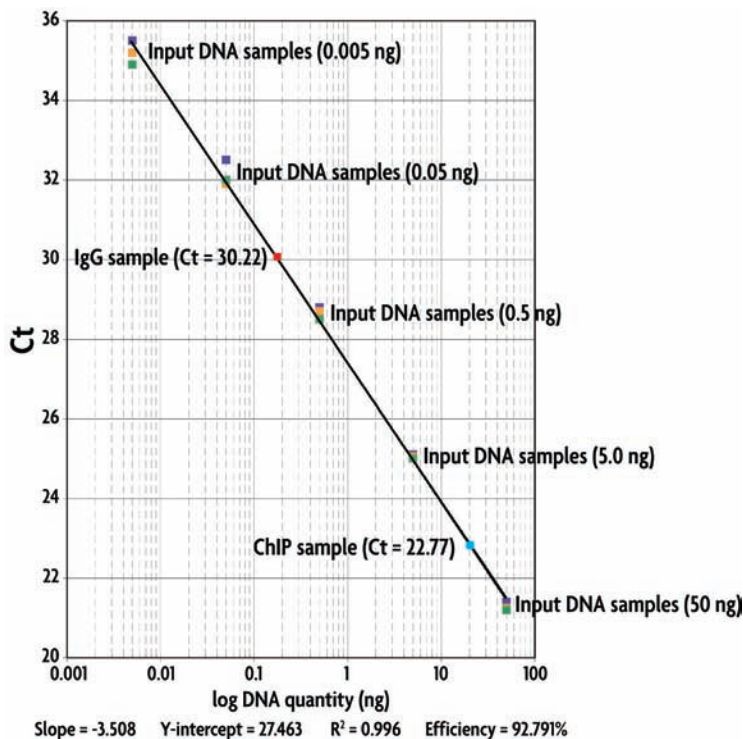

Figure 3: Standard curve produced from ten-fold dilutions of Input DNA.
4. Plot Ct vs. DNA quantity (log scale) of the dilutions to produce the standard curve (Figure 3).
B = the Ct value where X = 1, (e.g. 27.46 cycles in Figure 3)
ChIP Ct = 22.77 cycles (from Figure 3)
IgG Ct = 30.22 cycles (from Figure 3)
Using the data from Figure 3, calculations are performed as follows:
In Figure 3, the slope = -3.508
$$\text{Slope} = -3.508 \text{ (from Figure 3)}$$
Input Ct = 21.36 cycles (use the value of the Input DNA standard closest to the ChIP sample, which is the 50 ng Input DNA sample in Figure 3)
$$\text{ChIP Ct} = 22.77 \text{ cycles (from Figure 3)}$$
$$\text{IgG Ct} = 30.22 \text{ cycles (from Figure 3)}$$